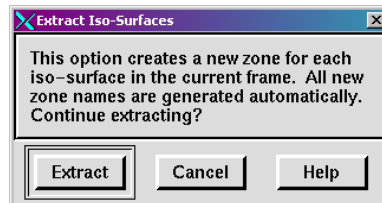

Figure 20-10. The Extract Iso-Surfaces dialog.
2. From the Data menu, choose Extract, then choose Iso-Surfaces. The Extract Iso-Surfaces dialog appears, as shown in Figure 20-10.